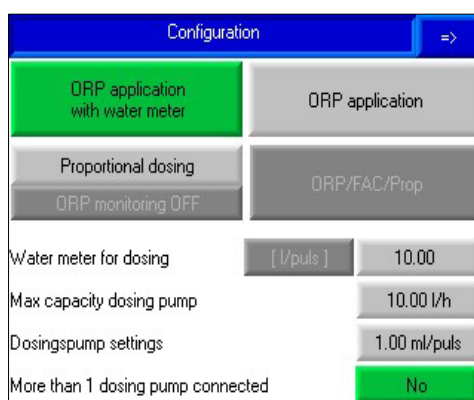

Figure 25 - Configuration screen for hot water system dosing
- The ORP application with water meter is used for hot water systems in buildings (Figure 25). ORP application without water meter is used for any other setup where a specific ORP value should be targeted.